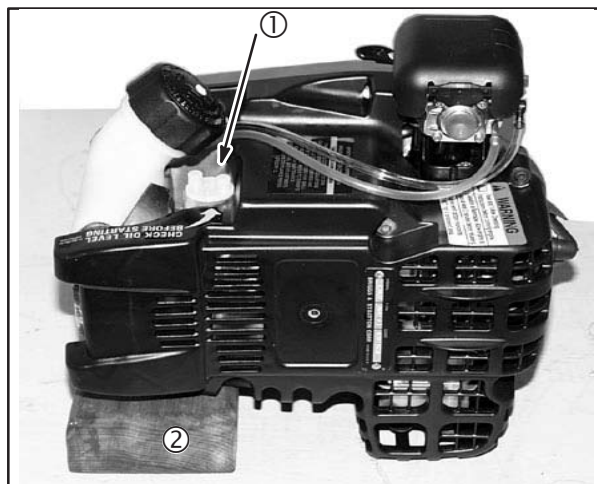

Fig. 1
1. Place the warm engine with the dipstick facing up. If necessary use a support (2) to level the engine, Fig. 1.
2. Unscrew the dipstick (1) and wipe it with a rag.